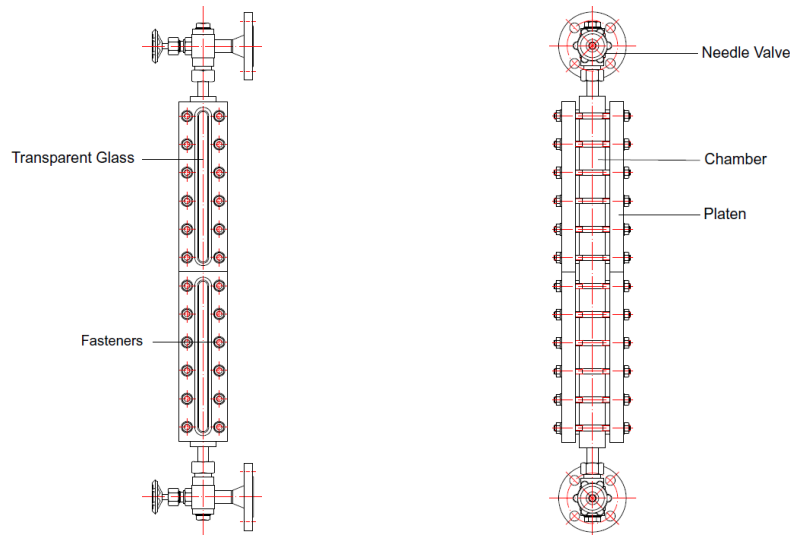

Fig. 1 Structure
3. The glass level gauge is combined with needle valve, chamber, pad, vent and drain devices, Fasteners and so on. Structure sees fig.1.